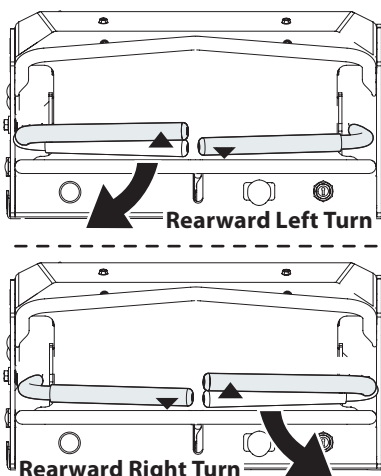

Figure 13
1. To turn to the left while traveling in reverse, move the left drive control lever forward of the right drive control lever. See Figure 13.
2. To turn to the right while traveling in reverse, move the right drive control lever forward of the left drive control lever. See Figure 13.